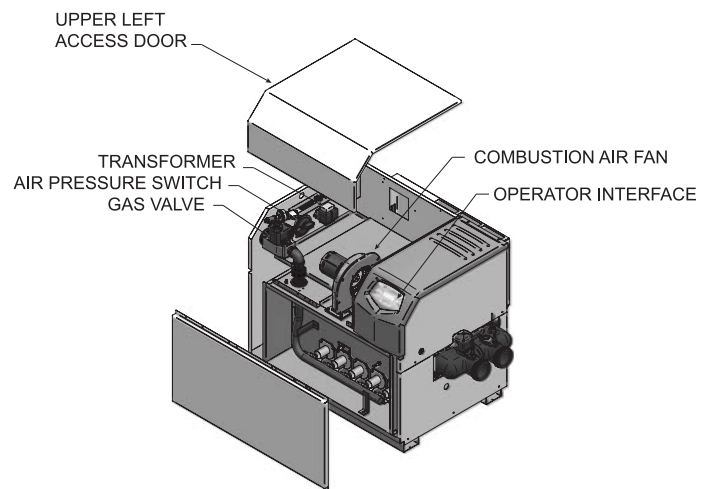

Figure 2-6\_Combustion Air Fan Location
2. Remove the upper left access door (FIG. 2-6).